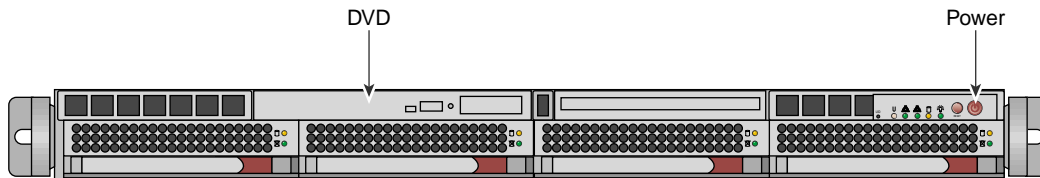

Figure 2-1 System Admin Controller Power On Button and DVD Drive
1. Turn on, reset, or reboot the system admin controller. The power on button is on the right of the system admin controller, as shown in Figure 2-1 on page 28.
2. Insert the SGI Admin Node Autoinstallation DVD in the DVD drive on the left of the system admin controller as shown in Figure 2-1 on page 28.